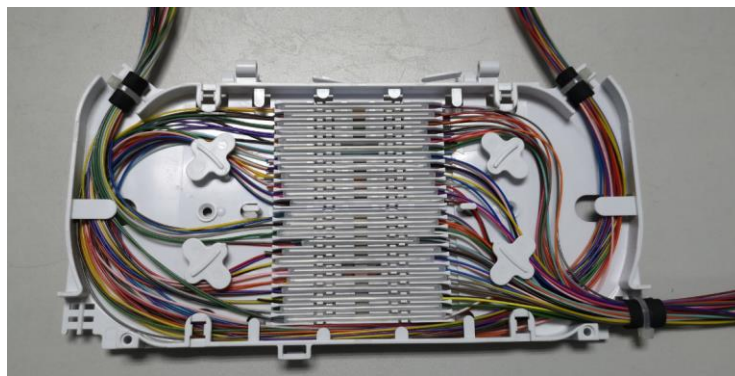

Figure 8
1. Splice 48F fibers per related instructions. Route spliced fibers into tray and secure SMOUVs in SMOUV holders before continuing with splicing. Splicing finished is shown as Figure 8.